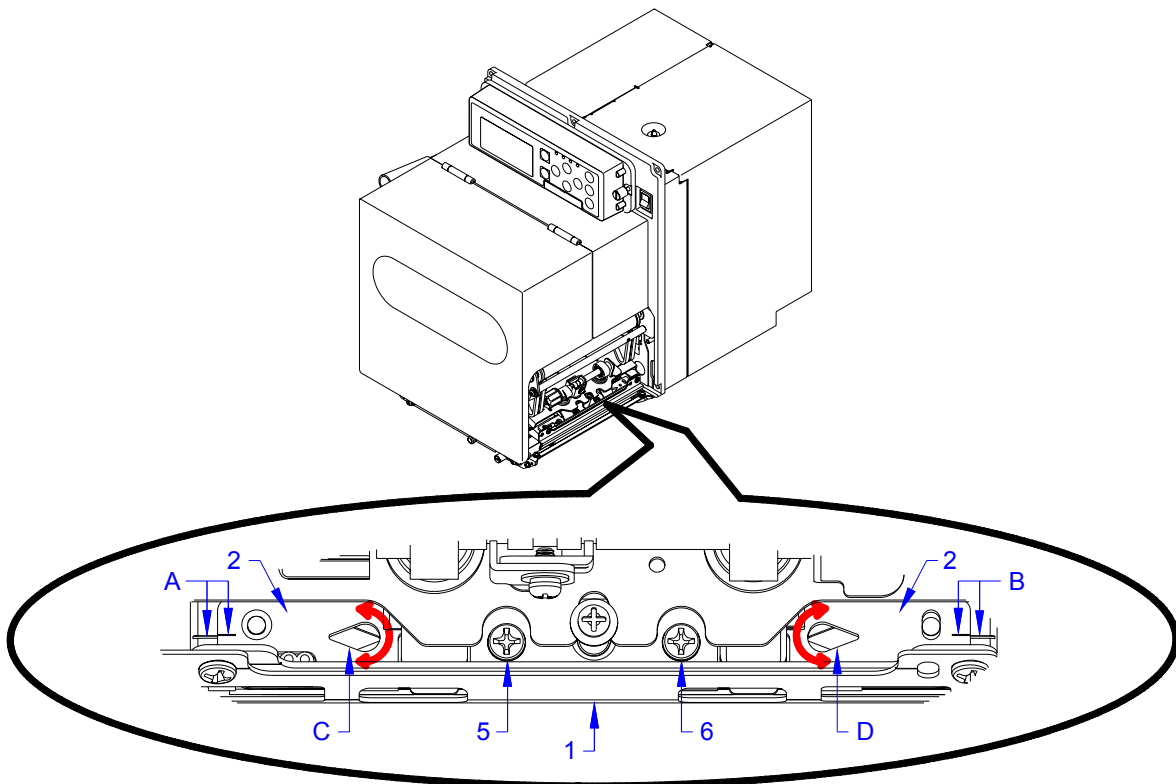

Figure 6-7, Print Head Alignment
- 2 Look downward to print head (1, Figure 6-7) to locate head alignment plate (2).
- 3 Ensure the values of alignment scales (A) and (B) are the same.